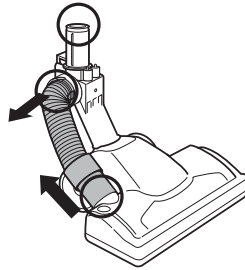

Fig. 30
- Detach the hose from the motorized floor nozzle. Pull the bottom of the hose out of the connector, and release the top of the hose by squeezing the tabs together. Check the hose and the openings for blockages. (Fig. 30)